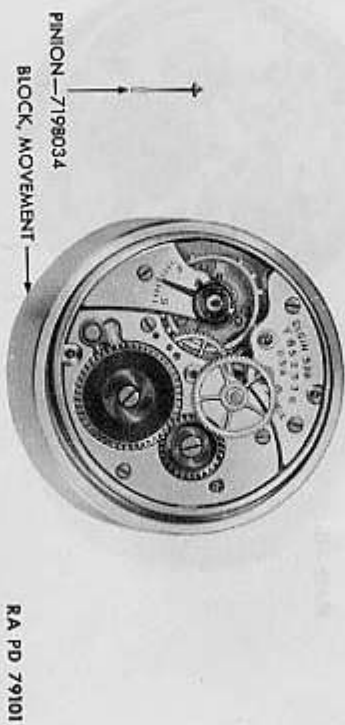

Figure 148 — Elgin Wrist Watch — Sweep Seconds Pinion Removed
**i. Remove Sweep Seconds Pinion (fig. 148).** Grasp the sweep seconds pinion with tweezers and lift it out of the hollow center wheel staff.
- (2) **REPLACE SWEEP SECONDS PINION (fig. 148).** Replace the sweep seconds pinion through the center wheel, being careful not to bend pinion.